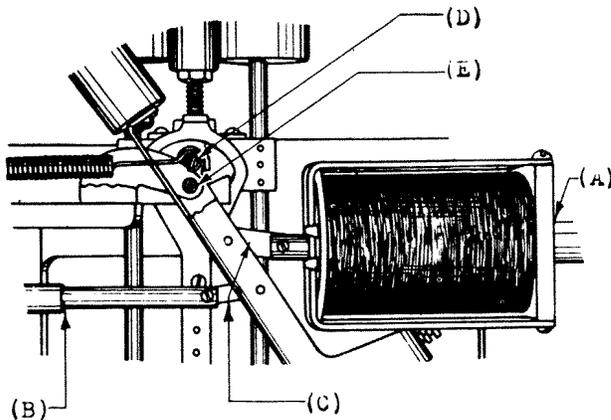

Fig. 6 - Points of Lubrication
- (1) Solenoid plunger. Fig. 6 (A)
- (2) Dash-pot plunger - Fig. 6 (B) - (Only with leather washer)
- (3) Bearings of links connecting solenoid plunger and dash-pot plunger to the reset arm. Fig. 6 (C)
- (4) Point of contact between pin in reset arm and retractile spring. Fig. 6 (D)
- (5) Bearing of reset arm. Fig. 6 (E)